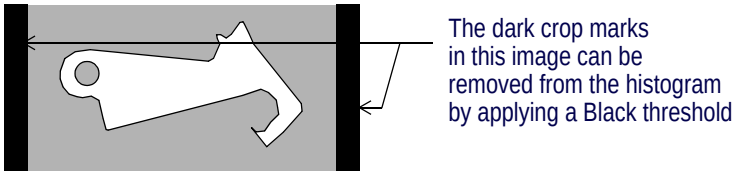

Figure 389 Applying a Threshold to Exclude Artifacts
- Another reason for using thresholds is to remove frame grabber artifacts, such as bars on the edges of an image as illustrated in Figure 389.